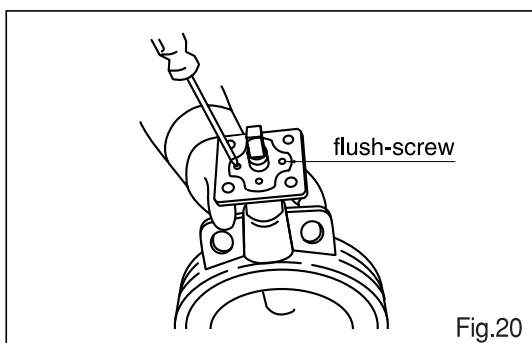

Fig.20
2. Remove the cover : Fix the valve by a vise, remove cover bolts, spring washer⑬, cover①, gasket⑫, from the valve body① .
3. Remove the screw⑧ : Remove the plate⑩ securing the upper shaft④ the bushing⑨ and screws⑧ fixing O-ring⑭. When screws⑧ removed, to avert air remaining in the shaft hole, loosen the screw⑧ gradually. (Fig.20)